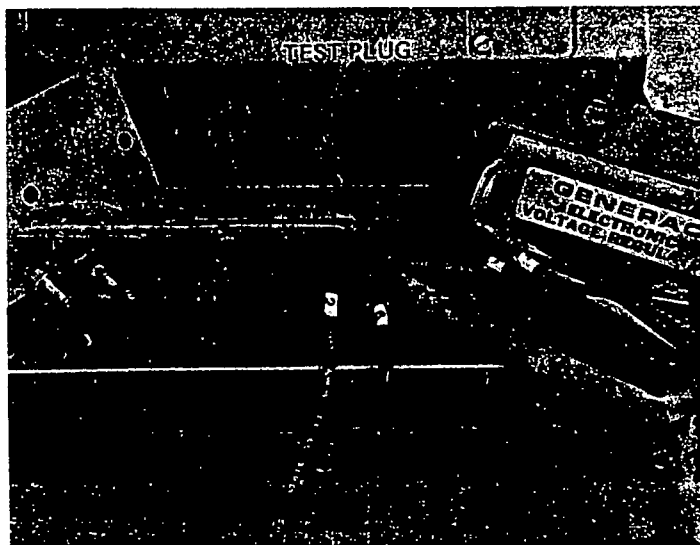

Figure 45
3.) Remove the 1" hex jam nut and lockwasher that retain the flywheel assembly (figure 45). Remove the flywheel by prying up around its entire circumference and tapping with a soft mallet at the same time. For unusually hard-to-remove flywheels, it may be necessary to use a three jaw puller.